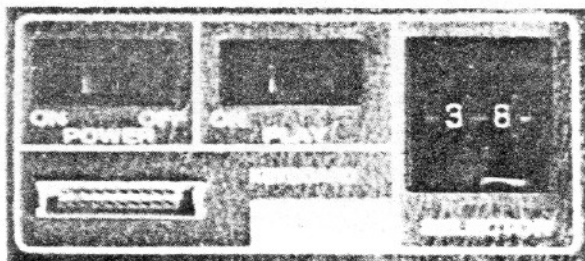

Figure 2-4. Musical Horn
**MUSICAL HORN** — The Bluebird Musical Horn is a solid-state self-programmed electronic horn which can play a number of tunes available from the integral computer storage "library". This unit is located in the dash beneath the digital clock, as shown in figure 2-4.